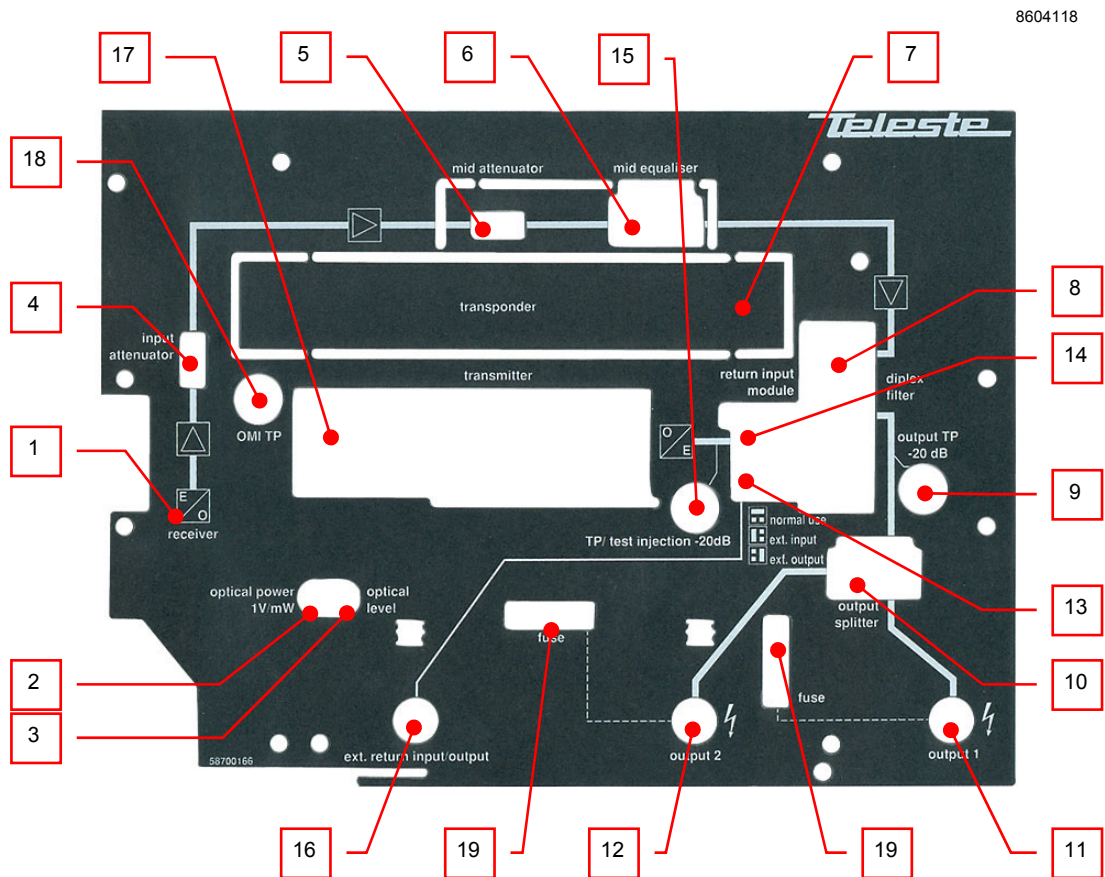

Fig. 7. AC800 plug-in placement
The supply voltage of the remote powered amplifier (27...65 V AC or $\pm 33...90$ V DC) can be fed through either output ports (fig. 7 pos. 11, 12) fused with common blade-type 15 ampere fuse (fig. 7 pos. 19). When a cable connection is used for powering, the maximum supply current is 8.0 A.
The function of external return input / output (fig. 7 pos. 16) is selected with a jumper (fig. 7 pos. 13). The jumper can be operated in three different positions. The positions are 'normal use', 'ext. input' and 'ext. output'. The jumper positions are displayed in the protective covering inside the amplifier housing (see fig. 7). The node is configured at the factory for 'normal use'.
Optical input power can be measured from the optical power DC voltage test point (fig. 7 pos. 2). The test point DC voltage is directly proportional to optical input power in mW e.g. 1.0 V corresponds to 1.0 mW average optical power. In case of a 1310 nm wavelength selection the input power in dBm (W) can be calculated by the formula
The mainboard provides a LED indicator (fig. 7 pos. 3) which gives a visual indication of the optical input power.
3. Install an input attenuator (fig. 7 pos. 4) to get appropriate RF level. Attenuators of the JDA900 series ranging from 0 dB to 20 dB in 1 dB steps are available. The attenuator value depends not only on the optical input level but also on the optical receiver type and the OMI. Refer to the 'Table 3. Input attenuator selection guide'.
4. Install the interstage attenuator (fig. 7 pos. 5) according to wanted output level. The network plan should specify exact signal levels. Refer to the table below.
5. Install the interstage equaliser (fig. 7 pos. 6) according to network plan. The network plan should specify exact signal values.
8. The optical receiver may need fine tuning at this point. To fine tune use the interstage attenuator (fig. 7 pos. 5) to set the output level equal to your reference. Before the fine tune, allow the unit to reach its normal operating temperature (approx. 10 min).
Optional return path operation requires plug-in diplex filters (fig. 7 pos. 8) and optical return transmitters (fig. 7 pos. 17) of various values. The diplex filter is selected during configuration according to the preferred frequency split. The available diplex filter types are CXF030 (30/47 MHz), CXF042 (42/54 MHz), CXF050 (50/70 MHz) and CXF065 (65/85 MHz). It is also possible to order the node without return path operation, in which case the diplex filter is replaced by forward path jumper (CXF000).
An optional low-pass filter (LPF) on the RF return path works in conjunction with the diplex filter to provide additional rejection of any forward path signals that may be present at the return path input. The LPF (AC621x) plugs into the return input module slot (fig. 7 pos. 14) and is selected according to the frequency split. The return path attenuator slot may also be equipped with an ingress blocker (AC6223). An ingress blocker on the RF return path filters out the lowest frequency band of the return path. Lower ingress level guarantees the safe operation of the EMS transmission and prevents the overloading of return path laser transmitter.